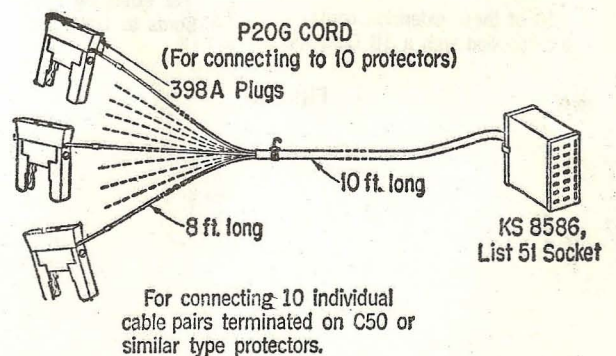

Fig. 10
- 4.08 P20G Cord:** This cord is illustrated in Fig. 10.